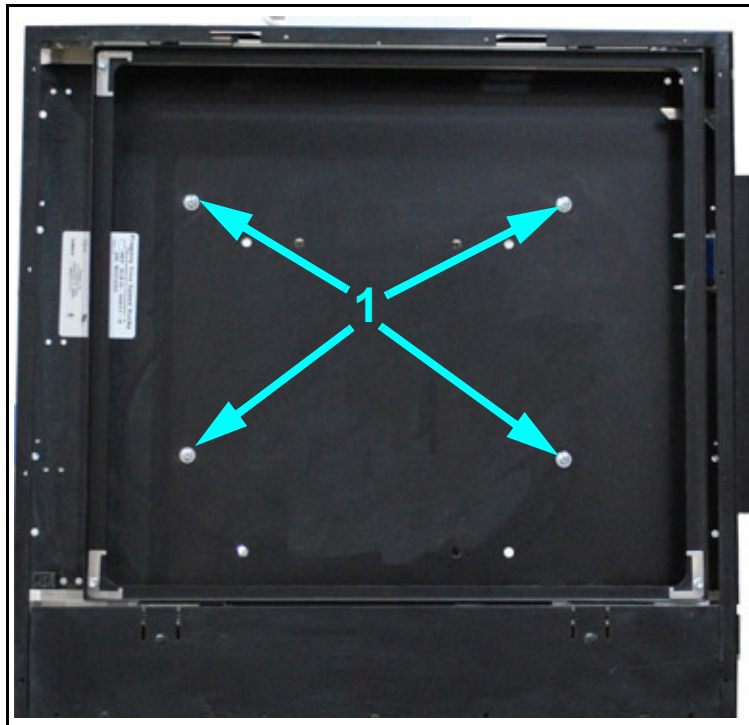

Figure 5-11. Remove bucky
- 10** Unscrew the four screws (1 in Figure 5-11) on the bucky and move to the side.